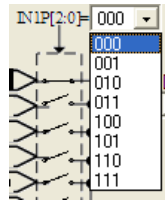

Figure 38
- (1) Click mouse left key on the name of INH, to select INH network.
- (2) Click mouse left key on the network switch, INH to select the network.
- (3) Click mouse left key, window like Figure 38 will appear, users can select network switches.